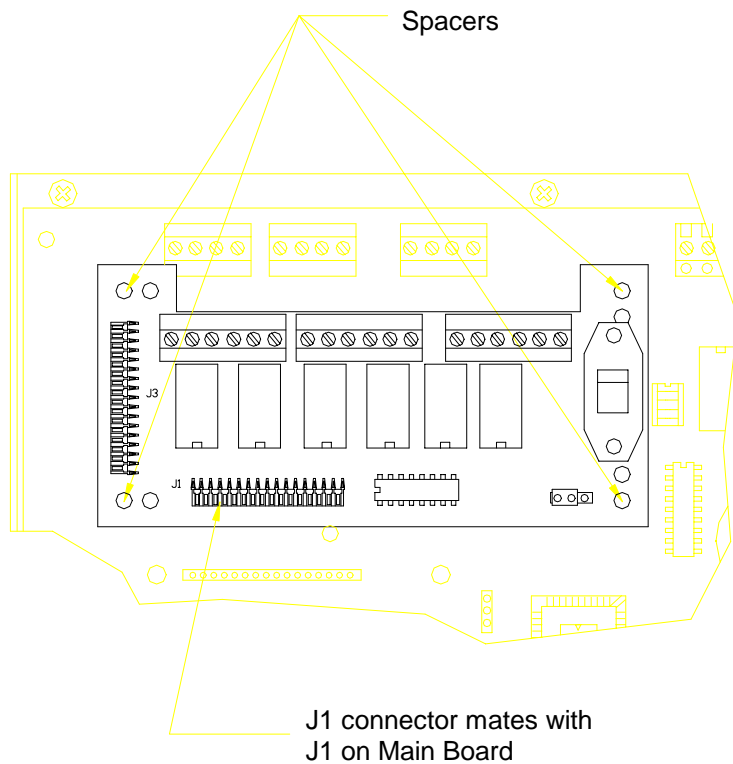
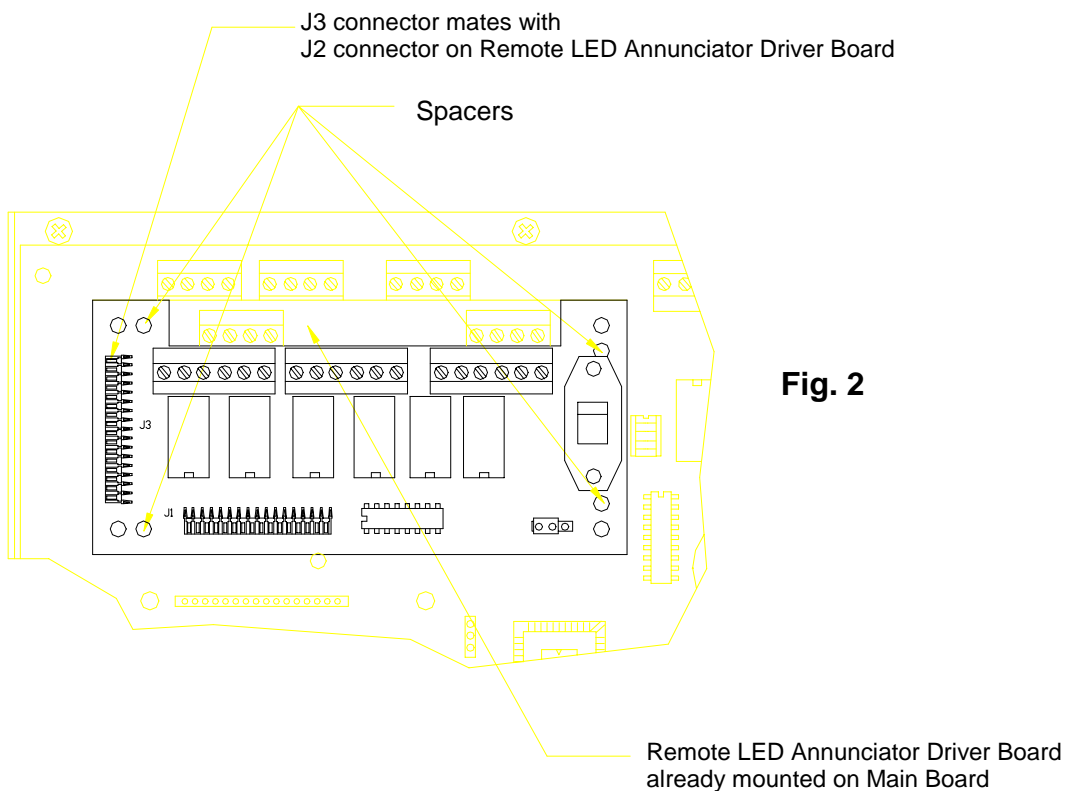

Fig. 1
Fig. 2
- Step 4.) Mount Alarm Relay Board as shown in Fig. 1, using four spacers (P/N 942456) to Main Board. If Remote LED Anunciator Driver Board is being mounted also, mount the Driver Board first using the installation instructions provided with that board. See Fig. 2 for the mounting of the Alarm Relay Board.